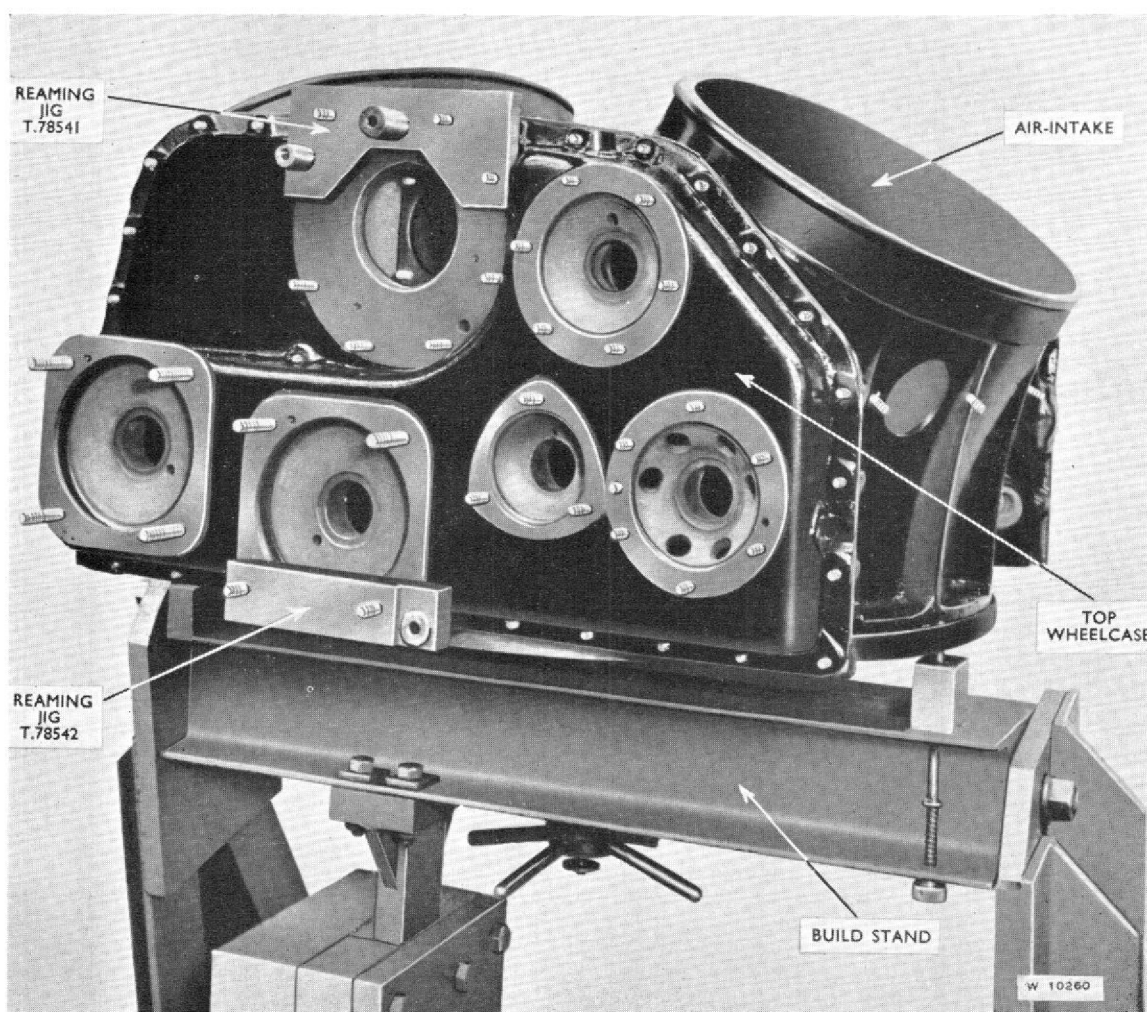

Fig. 7. Reaming jigs in position on Ghost 48 Mk. 1 top wheelcase.
3. Using reaming jig T.78541 for the dowel hole in the front flange, Fig. 6, or reaming jig T.78542 for the dowel hole in the rear flange, place the jig in position on the top wheelcase, Fig. 7, and locate it with the appropriate locating pin in the dowel hole; three locating pins T.78546, T.78550, and T.78554 are available to suit standard, 0.010 inch, and 0.020 inch oversize holes respectively. Secure the jig in position by fitting a slave $\frac{1}{4}$ inch B.S.F. nut to the short stud which passes through jig T.78541, or two slave $\frac{3}{8}$ inch B.S.F. nuts to the two studs which pass through jig T.78542. Remove the locating pin.